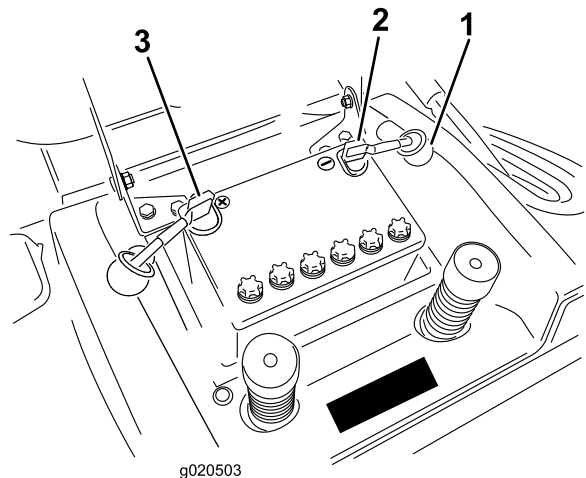

Figure 34
7. Disconnect the negative (black) ground cable from the battery post (Figure 34).
9. Disconnect the positive (red) cable from the battery post (Figure 34).
1. Place the battery into the chassis with the battery posts toward the rear of the machine (Figure 34).
3. Using the bolt and wing nut, connect the positive (red) cable to the positive (+) battery post (Figure 34). Slide the rubber cover over the battery post.
4. Using the bolt and wing nut, connect the negative (black) cable to the negative (–) battery post (Figure 34). Slide the rubber cover over the battery post.